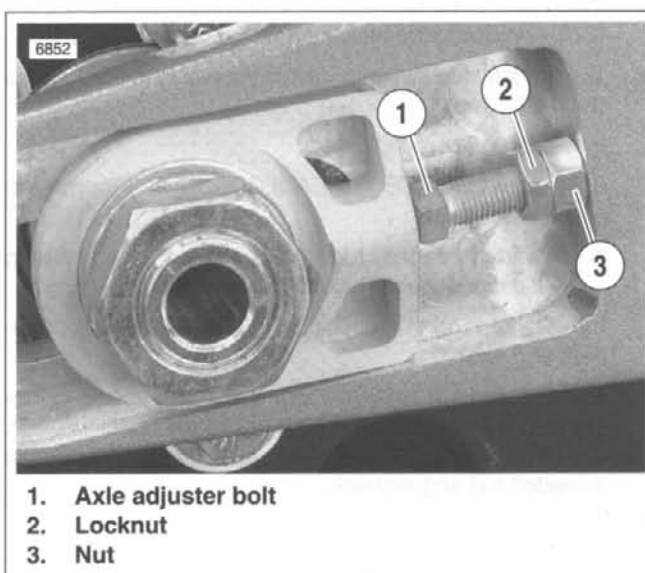

Figure 2-120. Axle Adjuster Bolt, Right Side Shown
18. See Figure 2-120. Tighten locknut (2) flush against nut (3). Tighten axle nut (metric) to 66-73 ft-lbs (89.5-98.9 Nm). Verify that belt deflection is correct. Lower motorcycle onto lift.